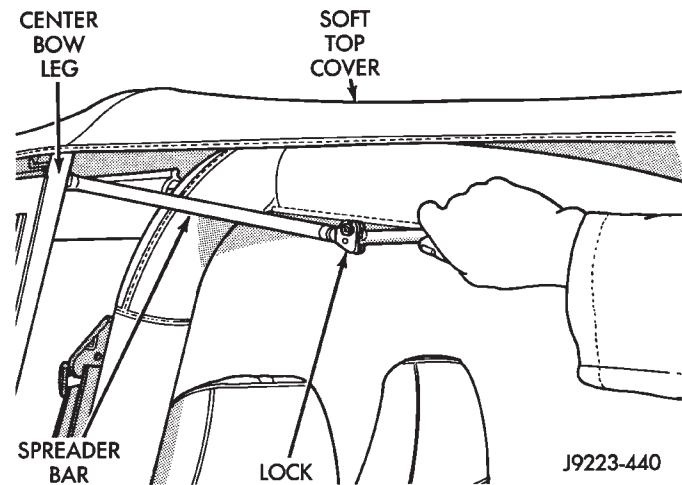

Fig. 118 Engaging Spreader Bar Lock
(8) Pull the rear bow legs rearward until they engage with the notch in the lower side retainers. Ensure that the side curtain rear zippers are not entrapped or folded behind the rear bow.
(9) Force the spreader bars (Fig. 118) upward until the lock engages.